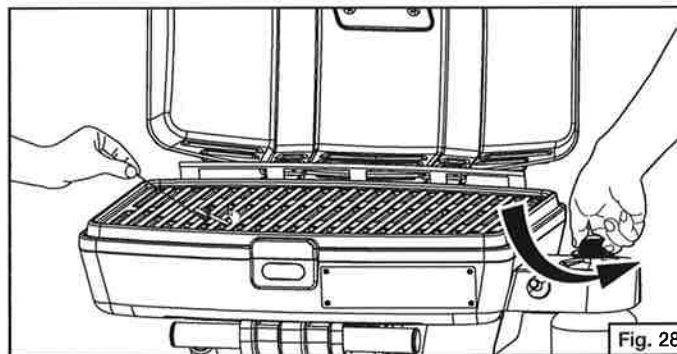

Fig. 28
2. Push and turn the control knob counterclockwise to the "HIGH" position. (Fig. 28)